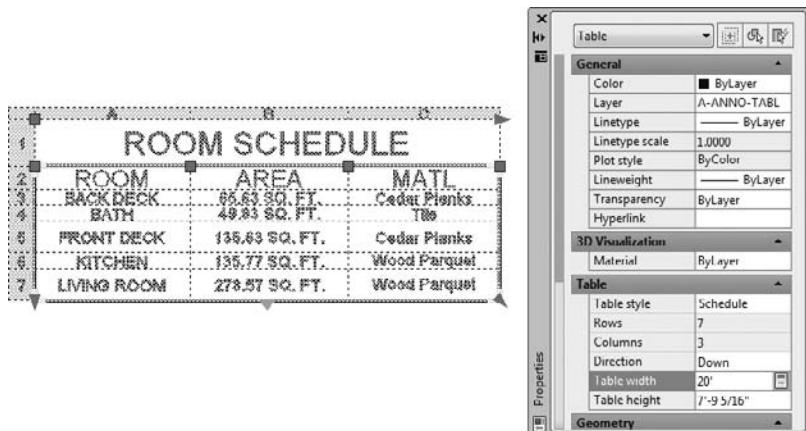

FIGURE 9.80 Adjusting the width of the ROOM SCHEDULE table
1. Open the Properties palette from the View tab > Palettes palette, select the ROOM SCHEDULE table, and change the Table Width property within the Table group to 20' (6 m), as shown in Figure 9.80.